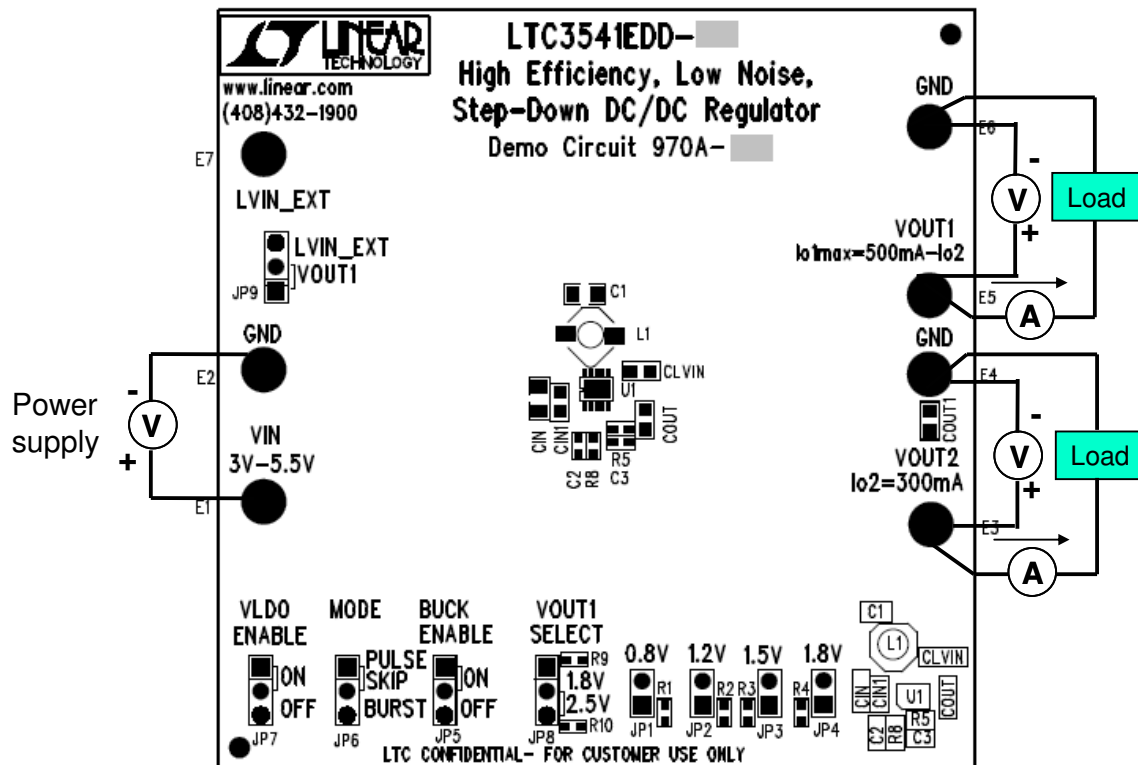

Figure 1. Proper Measurement Equipment Setup
Demonstration circuit 970A is easy to set up to evaluate the performance of the LTC3541. Refer to Figure 1 for proper measurement equipment setup and follow the procedure below.
1. Connect the input power supply to the Vin and GND terminals on the left-side of the board. Do not hot-plug Vin or increase Vin over the rated maximum supply voltage of 5.5V. Connect the loads between the Vout and GND terminals on the right-side of the board. Refer to Figure 1 for the proper measurement equipment setup.